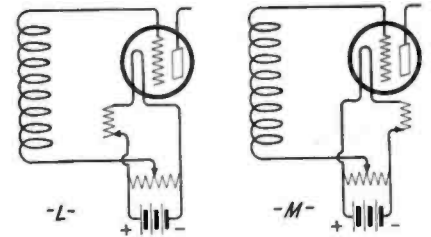

Figure 7.—The connection for positive and negative grid bias
If we place a rheostat in series with the filament as at (L) figure 7, then, when the slider is at the negative side of the resistance there will be no voltage difference between the negative terminal and the slider; but if we shift the rheostat to the negative side of the line as at (M) figure 7, the slider does not touch the negative terminal of the filament and there is a difference of voltage equal to the drop of voltage across the rheostat. Say the tube were a UV-201A and the rheostat of 4 ohms value so that the terminal voltage across the tube was proper—namely, 5 volts, then there would be a drop of one volt across the rheostat—assuming the battery to be 6 volts. If the grid return were connected to the slider, the grid voltage could be varied from negative 1 with respect to the negative terminal of the filament, up to positive 5. Look at this carefully and apply some of the rules given above to “doping it out.”